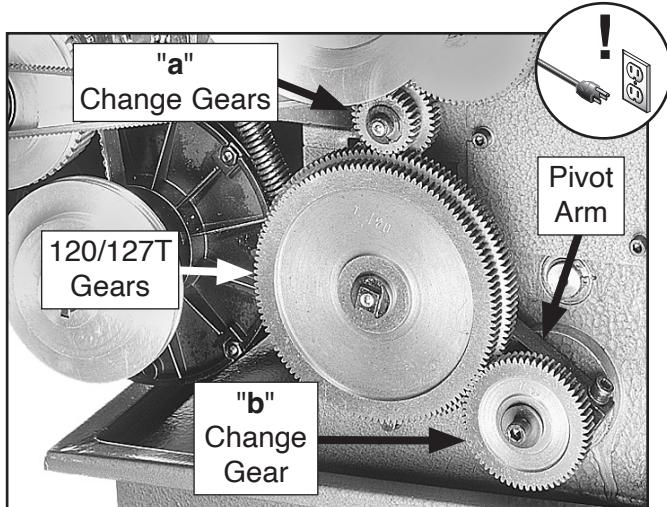

Figure 48. Change gears.
In addition to setting the feed rate lever, the change gears shown in **Figure 48** work with the feed rate lever to provide the various powered feed rates for the carriage.
- Loosen the cap screw that secures the pivot arm, then lower the 120/127T gears away from the "a" gears (see **Figure 48**).